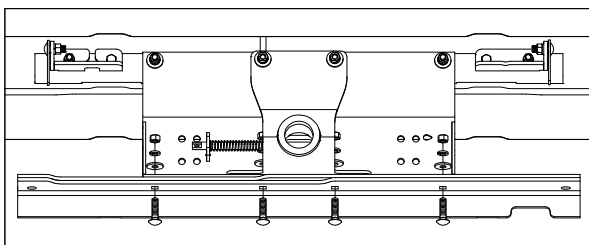

Figure E3: Looking up at center section. (Frame not shown.)
- 3. Attach front cross members.** With the cross member and brace spanning the frame slide both back against the center section. While pushing up on the center section (so the raised portion fits through the 4" hole in the truck bed), align the holes and install 1/2" x 2" carriage bolts through the cross member, brace, and the center section. Place a flat washer, lock washer, and nut on each bolt, see Figure E3.